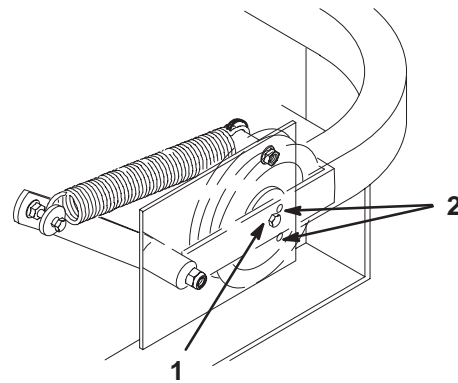

Figure 67
6. Check belt tension. The center bolt of spring loaded idler must be between the two alignment holes in left support plate (Fig 67).
Check position of center bolt in a High Height of Cut. The center bolt must be at or above the lower adjustment hole (Fig 67).
- Check belt tension again. The center bolt of spring loaded idler must be between the two alignment holes in left support plate (Fig 67). Adjust, if necessary, and tighten all hardware securely.